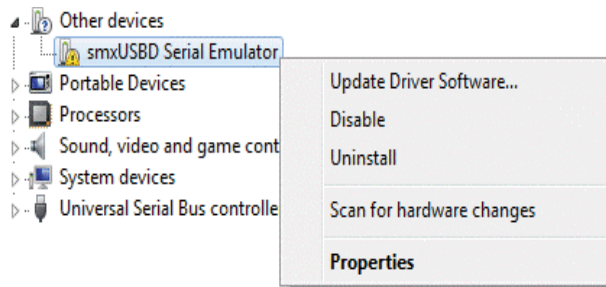

Figure 80 Device Manager Windows 7
3. Under **Other devices**, right click on **smxUSB Serial Emulator** and select **Update Driver Software** (Figure 80).